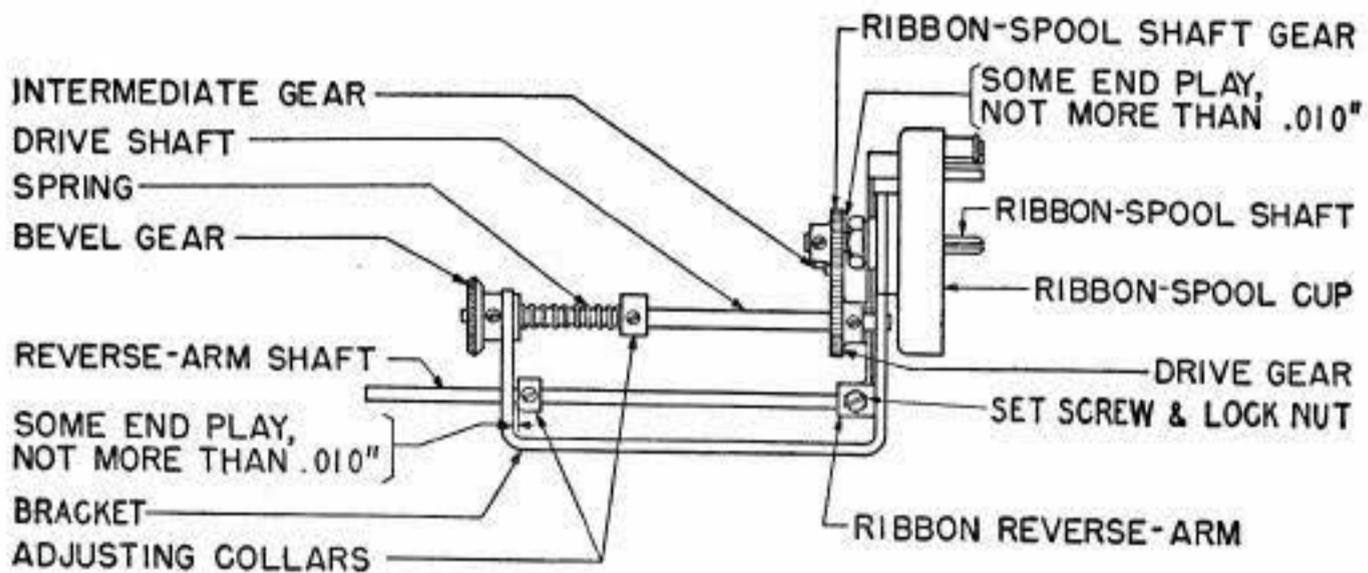
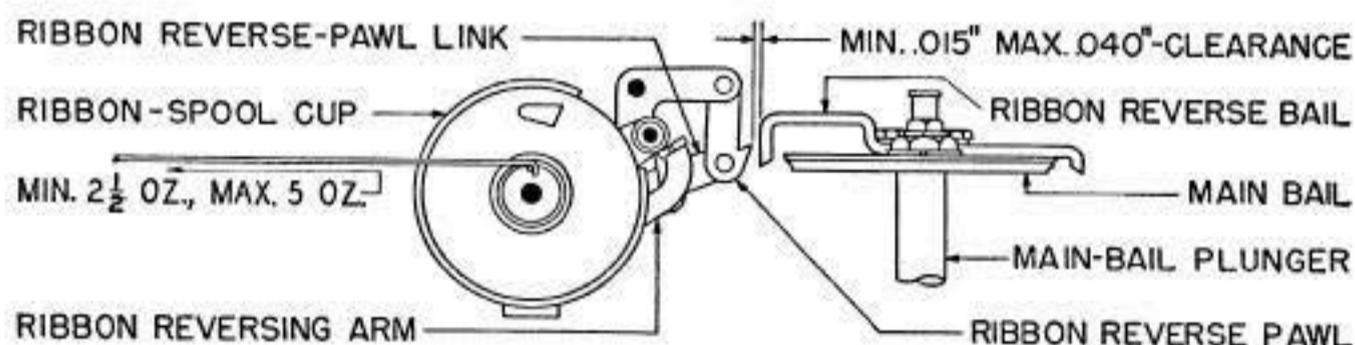

Fig. 15
Fig. 17
(1) To adjust, loosen the ribbon-cup locknut and rotate the cup. Tighten the locknut.
2.18 Ribbon-Spool Brackets: Both left and right ribbon-spool cups should be in line and the right and left ribbon drive-shaft bevel gears should have a minimum amount of endplay without binding when they are in mesh with their respective ribbon-feed-shaft bevel gears. **Figs. 15, 16**
2.19 **Left and right ribbon-spool shafts** should have some endplay, not more than .010". **Figs. 15, 16**
2.20 **Left ribbon-spool drive shaft** should protrude approximately the same distance through the bevel gear as it does through the front of the ribbon-spool bracket. **Fig. 15**
2.21 **Left ribbon-spool drive-shaft driving-gear** should mesh fully with the intermediate gear. **Fig. 15**
2.22 **Left and Right Ribbon-Spool-Shaft Compression Springs:** It should require a pull as indicated in Fig. 17 to just start the ribbon-spool shafts turning. See Fig. 15 for location of parts and Fig. 17 for method of checking. **Figs. 15, 17**
2.23 **Left and right ribbon-reverse arms** should be positioned so that the end of the shafts are flush with the front of the brackets when the adjusting collars are held against the rear arm of the brackets. **Fig. 15**
2.24 **Left and right ribbon-reverse-arm shafts** should have some endplay, as indicated in Figs. 15, 16. **Figs. 15, 16**
2.25 **Ribbon spools** should be sufficiently tight on their shafts to insure that they will not slide off in service. **Figs. 15, 16**
2.26 **Ribbon-Reverse Pawls:** There should be a clearance as indicated in Fig. 17 between both right and left
ribbon-reverse pawls and the ribbon-reverse bail when the ribbon-reverse arms are resting against the ribbon-spool cups (unoperated position) and the ribbon-reverse bail is opposite the ribbon-reverse pawls. **Fig. 17**